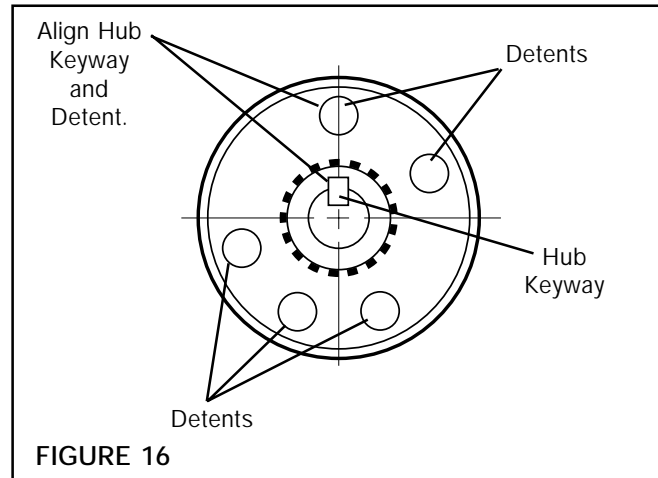

FIGURE 16
1. Press Hub (Item 7) into Drive Flange Assembly (Item 19) (See Fig. 16).
2. Replace Retaining Ring (Item 6) on Drive Flange end of DC Series Clutch (See Fig. 16).
3. Install Springs (Item 17) and Spring Stiffener Pins (Item 16) into respective holes in Ring Drive (See Fig. 16).
4. Press Cylinder/Piston Assembly (Items 8 & 9) onto Hub (Item 7) (See Fig. 16).